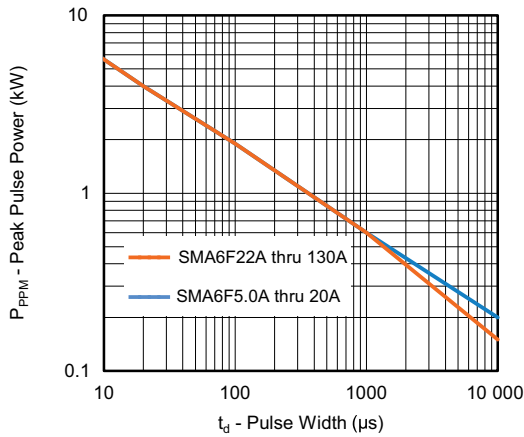

Fig. 1 - Peak Pulse Power Rating Curve
- Fig. 1 - Power calculation is based on I_{PPM} times defined maximum clamping voltage by pulse width
- Fig. 1 - 10 000 μs P_{PPM} is actual test for $V_{WM} \leq 60\text{ V}$ types, over 60 V types 10 000 μs P_{PPM} is curve extensional value